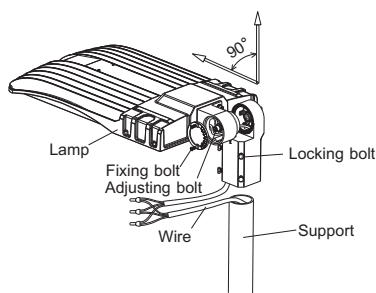

figure 1
1. Loosen the 4 locking bolts on the slip fitter, connect the wire correctly and put the wire into pole. Then fasten the locking bolts between slip fitter and the pole. (figure 1)
2. Loosen the fixing bolts and adjusting bolts, align the fixture to required angle. Tighten adjusting bolt and fixing bolts after the angle is confirmed. (figure 1)